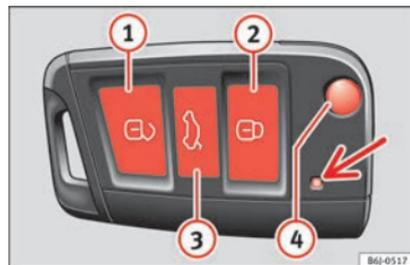

Fig. 122 Assignment of buttons on the remote control key.
By using button  **Fig. 122** on the control, the key shaft is released.
Unlocking the vehicle  **Fig. 122** .
Locking the vehicle  **Fig. 122** .
Unlocking the rear lid. Press button  **Fig. 122**  until all the turn signals on the vehicle flash briefly. When the unlocking button   is pressed, you have 2 minutes to open the door. Once this time has passed, it will lock again.
Moreover, the battery indicator on the key **Fig. 122** (arrow), will flash.
- Press the  button  **Fig. 122** on the remote control.